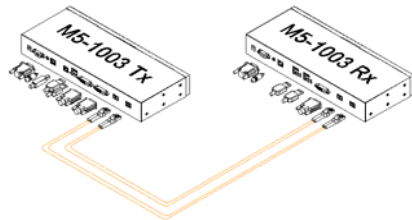

Figure 5 – Connection of Two(2) Duplex LC Optical Fibers
| Figure 5 – Connection of Two(2) Duplex LC Optical Fibers | 1-4 |